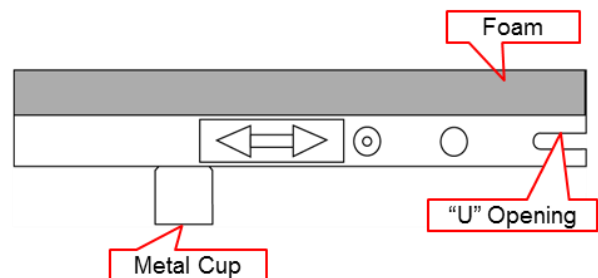

Figure 1
1. Locate the four (4) aluminum channels for the hood and position them into a square with the foam facing up. Slide the "U" opening on the channel end (Fig. 1) and corner bracket toward the brass eyelets until you feel it latch.
10. Push the support rod down and insert the top end of the rod into the metal cup on the hood frame. Fig 1.